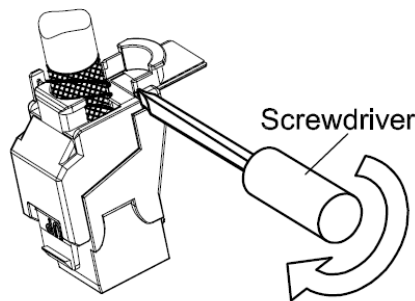

Fig. 16
- 2) Pull out the shielding lug. Insert the screw driver into the slot and rotate it to open the jaw (Fig. 16)